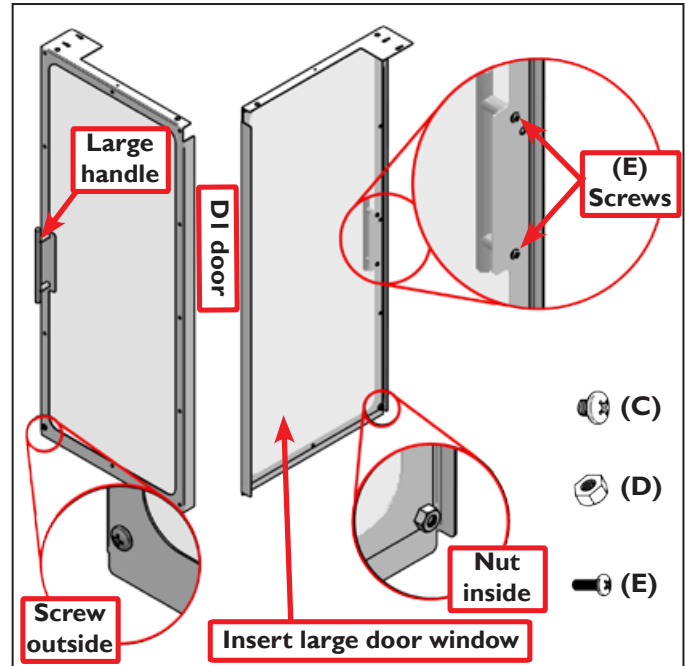

Figure 23
61. Place one Large Door Window (E.12;Tormach PN 34948) inside the D1 Door frame (E.7) and fasten with (C) screws and (D) nuts as seen in **Figure 23**.